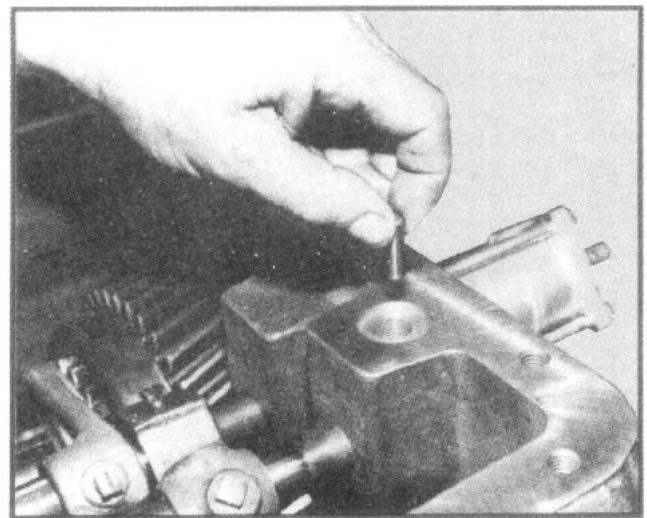

Fig. 32
6. Install plunger into front drive indicator switch hole with rounded side of plunger against shift shaft (See fig. 32). Place one copper washer on the indicator switch and install indicator switch into housing. Tighten switch securely. Check operation of switch with a circuit tester, while operating the shift shaft. Add washers as necessary until switch operates properly.
11. Install plunger into front drive indicator switch hole with rounded side of the plunger against the shift shaft (See fig. 32). Place one copper washer on the indicator switch and install indicator switch into housing. Tighten switch securely. Check operation of switch with a circuit tester, while operating the shift shaft. Add washers as necessary until switch operates properly.